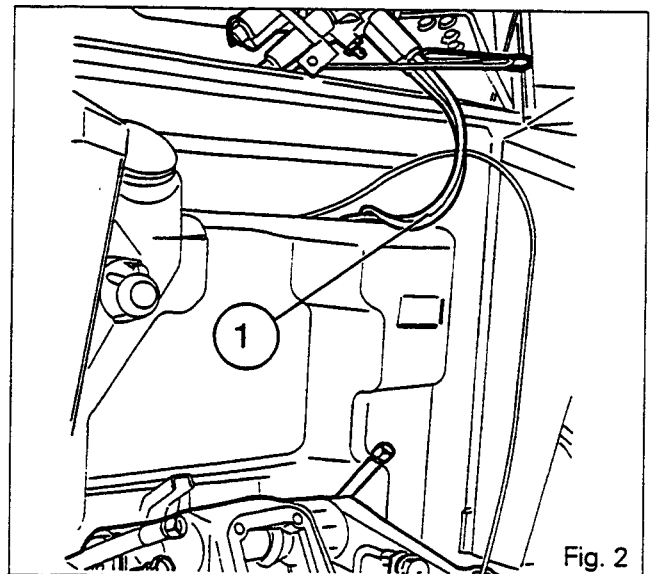

Fig. 2
**Note: Tilt the support and auxiliary spool valve assembly without detaching the control cables (1) (Fig. 2).**
16. Refit the support, tilting it, with the control cables (1) (Fig. 2).